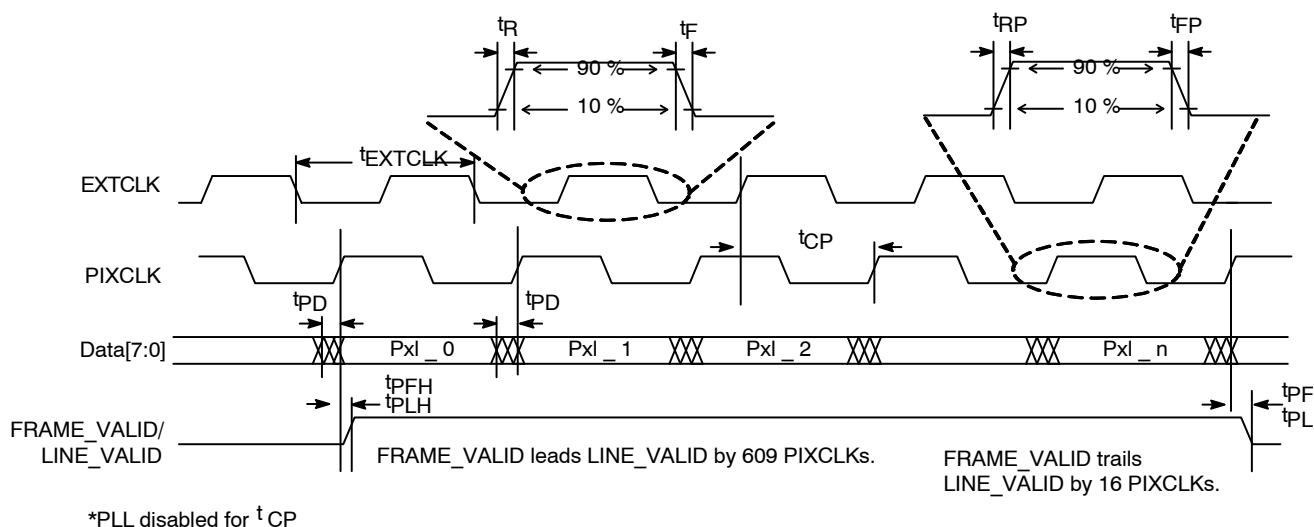

Figure 30. I/O Timing Diagram
See Figure 30 and Table 19 for I/O timing (AC) characteristics.